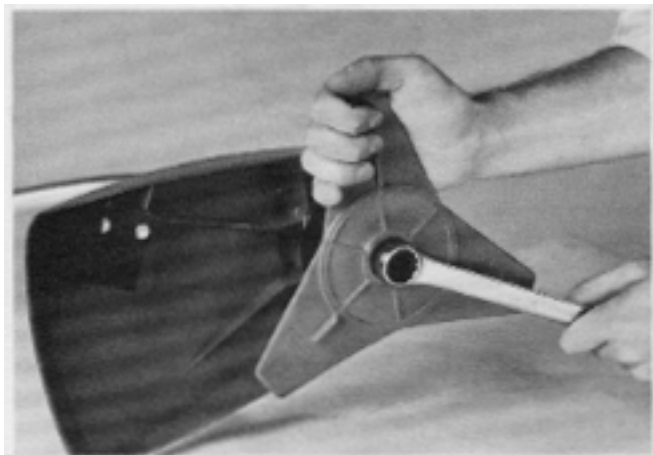

Figure 115
1. Grasp the Flex Blade to prevent it from rotating then remove the nut by turning it counterclockwise. See Fig. 115.